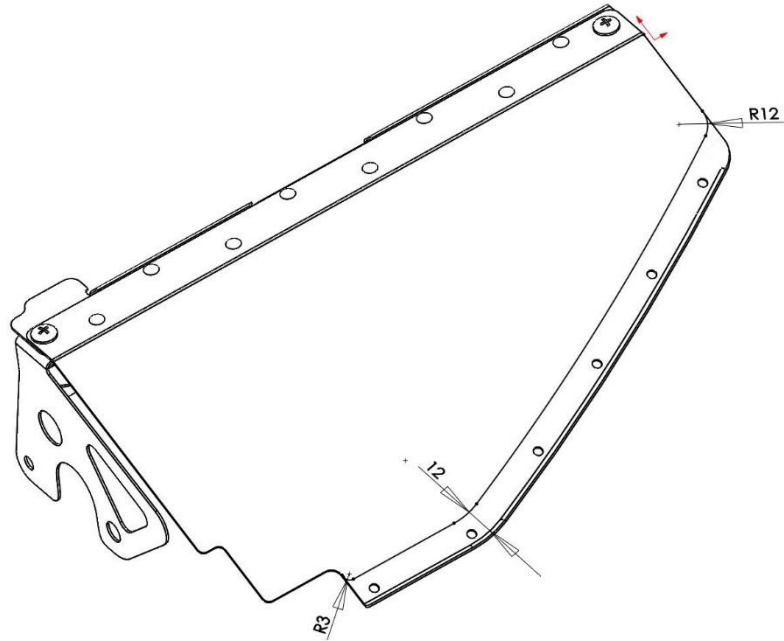

Figure 2: Marking of the trim contour
4. Mark the contour to be trimmed in accordance with Figure 2. It is also possible to use the reinforcement strap as a template.